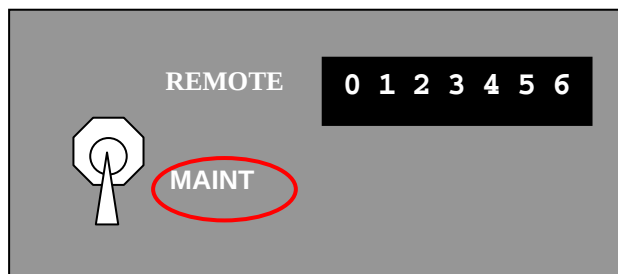

Figure 5-27
- Set the Remote/Maintenance switch (Figure 5-27) to Maintenance.